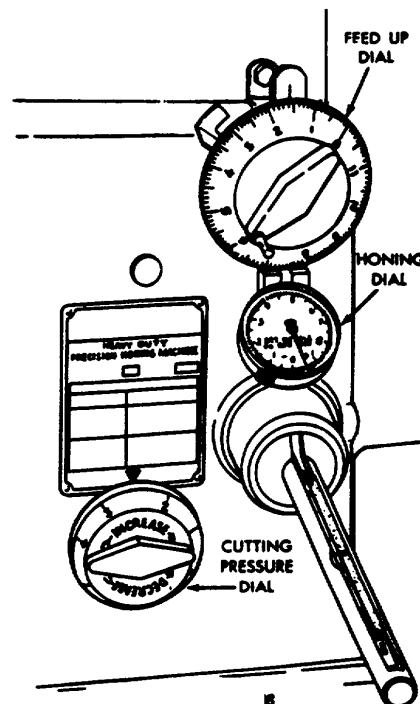

FIGURE 38
- (1) Set the Precision Gage as instructed for piston pin fitting.
- (2) Insert honing unit with roughing stones in honing machine and set cutting pressure dial between 2 and 2-1/2 (Figure 38).